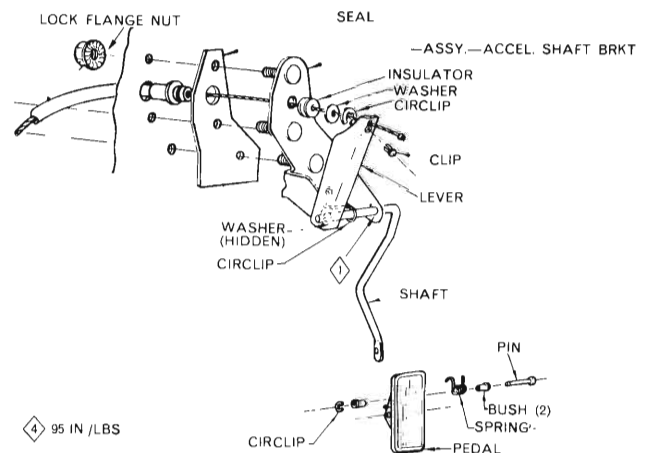

Fig. 8 - Accelerator pedal assembly
(1) Apply a thin film of multi-purpose grease on accelerator shaft where it turns in bracket, anti-rattle spring where it contacts shaft, ball end and pocket at rear end of throttle cable, and the bell crank pin of the accelerator pedal mechanism, refer *Fig. 8*.
(2) Disconnect choke at carburettor or block choke valve in full open position. Open throttle